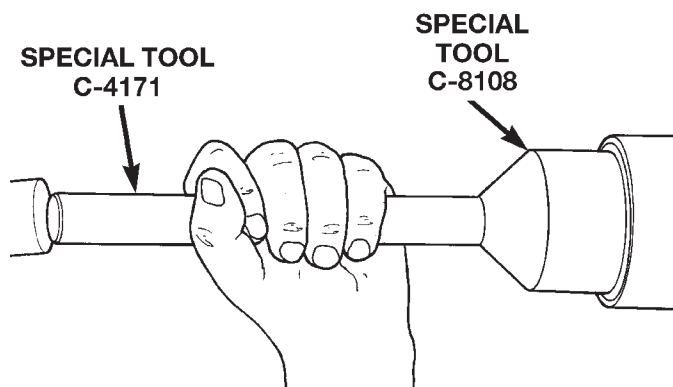

Fig. 27 Pinion Seal Installation
(3) Install pinion front bearing and oil slinger, if equipped. Apply a light coating of gear lubricant on the lip of pinion seal.
(4) Install seal with Installer 8108 and Handle C-4171 (Fig. 27).